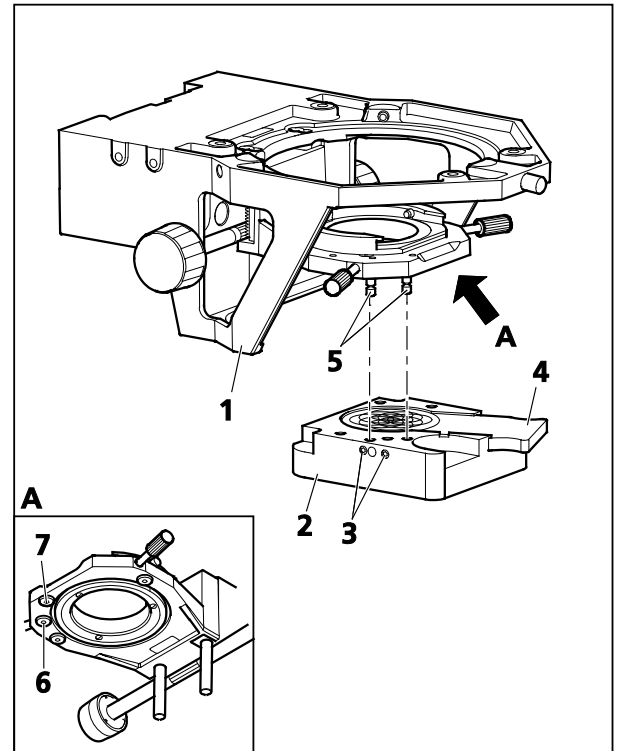

Fig. 49 Installing the LED illuminator
- Screw bolts (Fig. 49/5) by hand into the tapped holes (Fig. 49/6 and 7) in the bottom of the condenser carrier.
- Hold the LED illuminator (Fig. 49/2) parallel to the underside of the condenser carrier (Fig. 49/1). Move it upwards so that the bolts (Fig. 49/5) fit into the corresponding holes on the illuminator. Fasten the illuminator by means of the countersunk screws (Fig. 49/3) located on the left of the LED illuminator.
- Push the slider with diffusing glass 80° (Fig. 49/4) into the LED illuminator, or for transmitted-light polarization, push in the polarizer for LED (427708-9901-000).